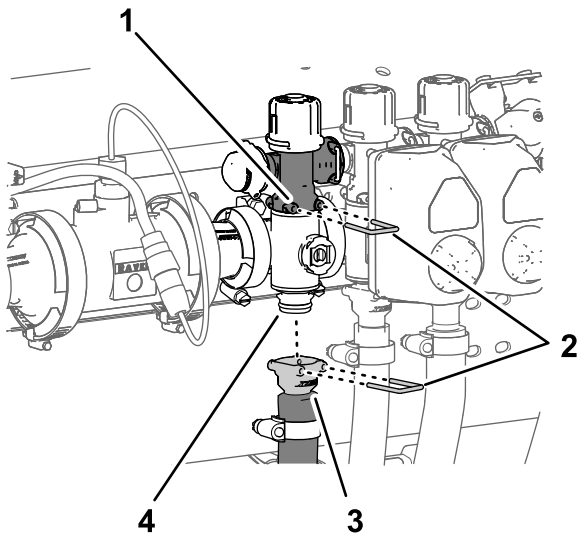

Figure 125
- 1. Remove the quick-connect pin that secures the quick-connect coupler for the section-bypass valve to the section-manifold valve (Figure 125).
- Remove the quick connect pin that secures the quick-connect coupler for the section supply hose to the manifold for the quick-connect fitting of the section-manifold valve (Figure 125).